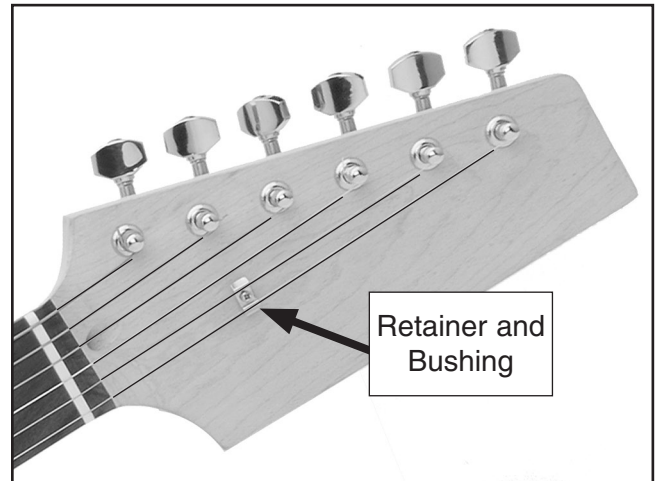

Figure 30. String retainer locations.
3. Slide a #2 x 3/8" screw through a retainer and small bushing, and fasten it to the back hole on the headstock (**Figure 30**).
The string retainer mounts between the 1st and 2nd strings (**Figure 30**).